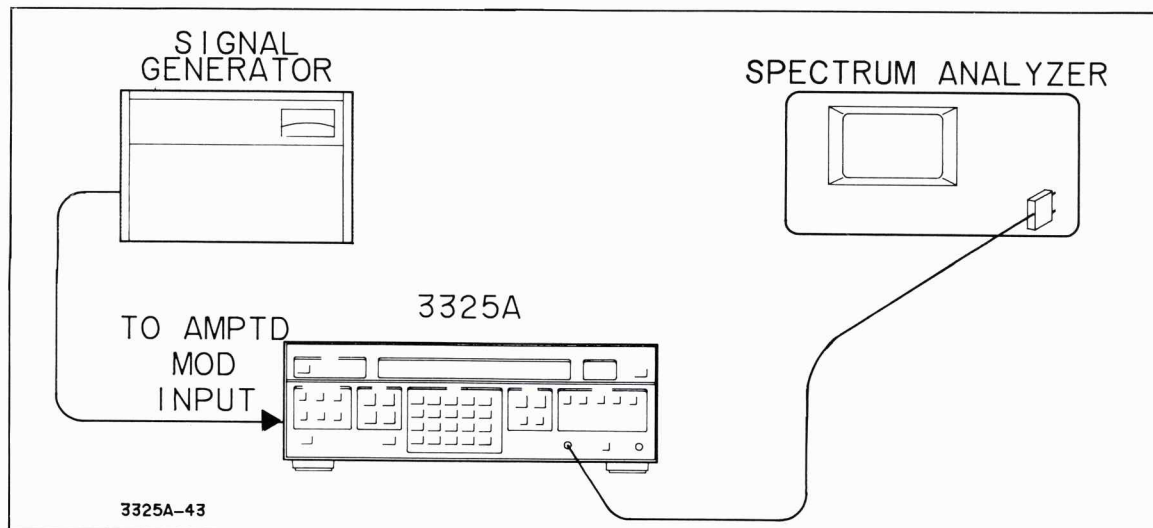

Figure 4-4. AM Envelope Distortion
a. Connect the equipment as shown in Figure 4-4.